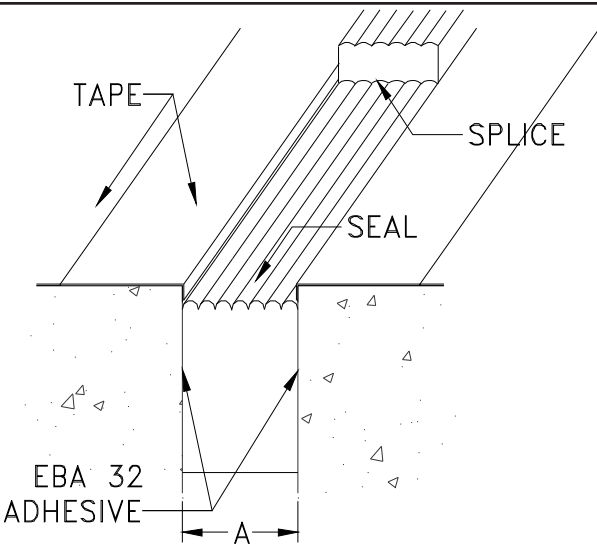

Figure 10
- STEP 10.** Cut and miter the seal to the lengths required for the application. To ensure proper fit, add 1/2" to the joint length and cut the seal. If splicing sections of the seal together is necessary, select the silicone sealant. Using a putty knife, apply a thin film of silicone sealant to the end of the installed section of the seal, and install the mating section of the seal as described above, pressing the mating section of the seal together with the installed section of the seal (see Figure 10). Ensure that the silicone sealant does not smear onto the seal's surfaces that will contact the EBA32 adhesive. Ensure that the mating seal sections are properly aligned and level with one another. Repeat this splicing procedure for each splice.